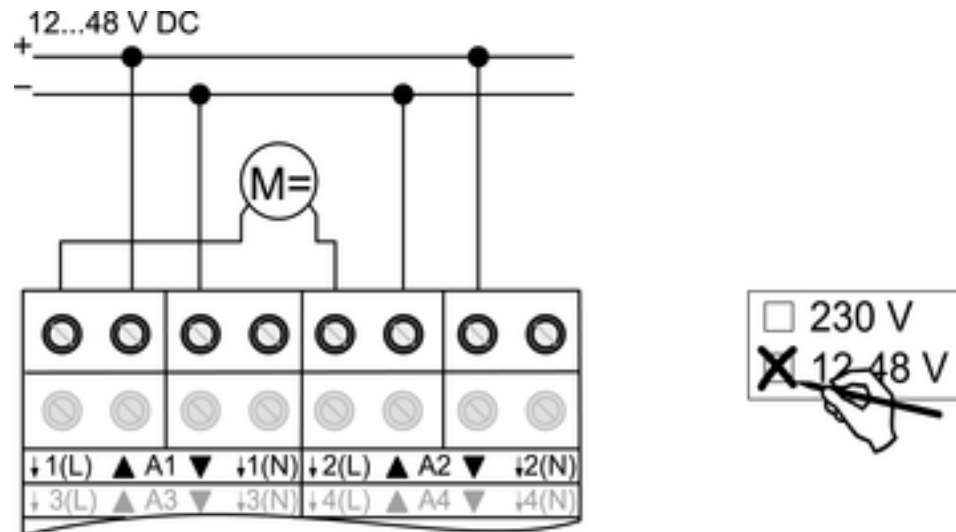

Figure 8
- Connecting the motors (Figure 8).
- Mark **12-48 V** use on label (Figure 8).